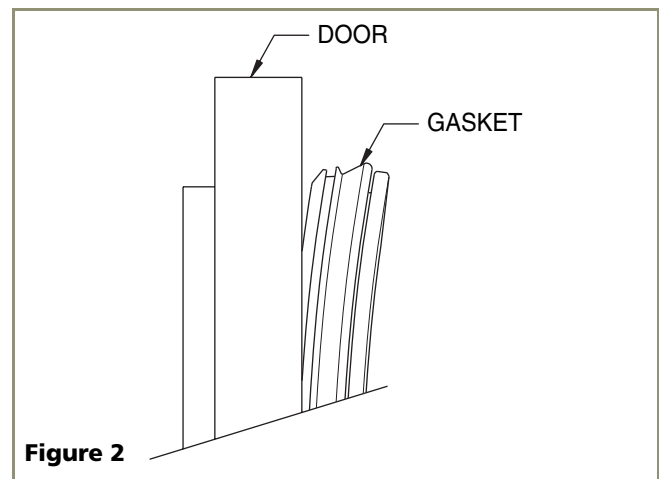

Figure 2
2. Turn door over so gasket is facing up. Pull door gasket out of the groove completely. Start in the middle and pull outward, moving toward the edge (**Figure 2**). This may take some force, but be careful.